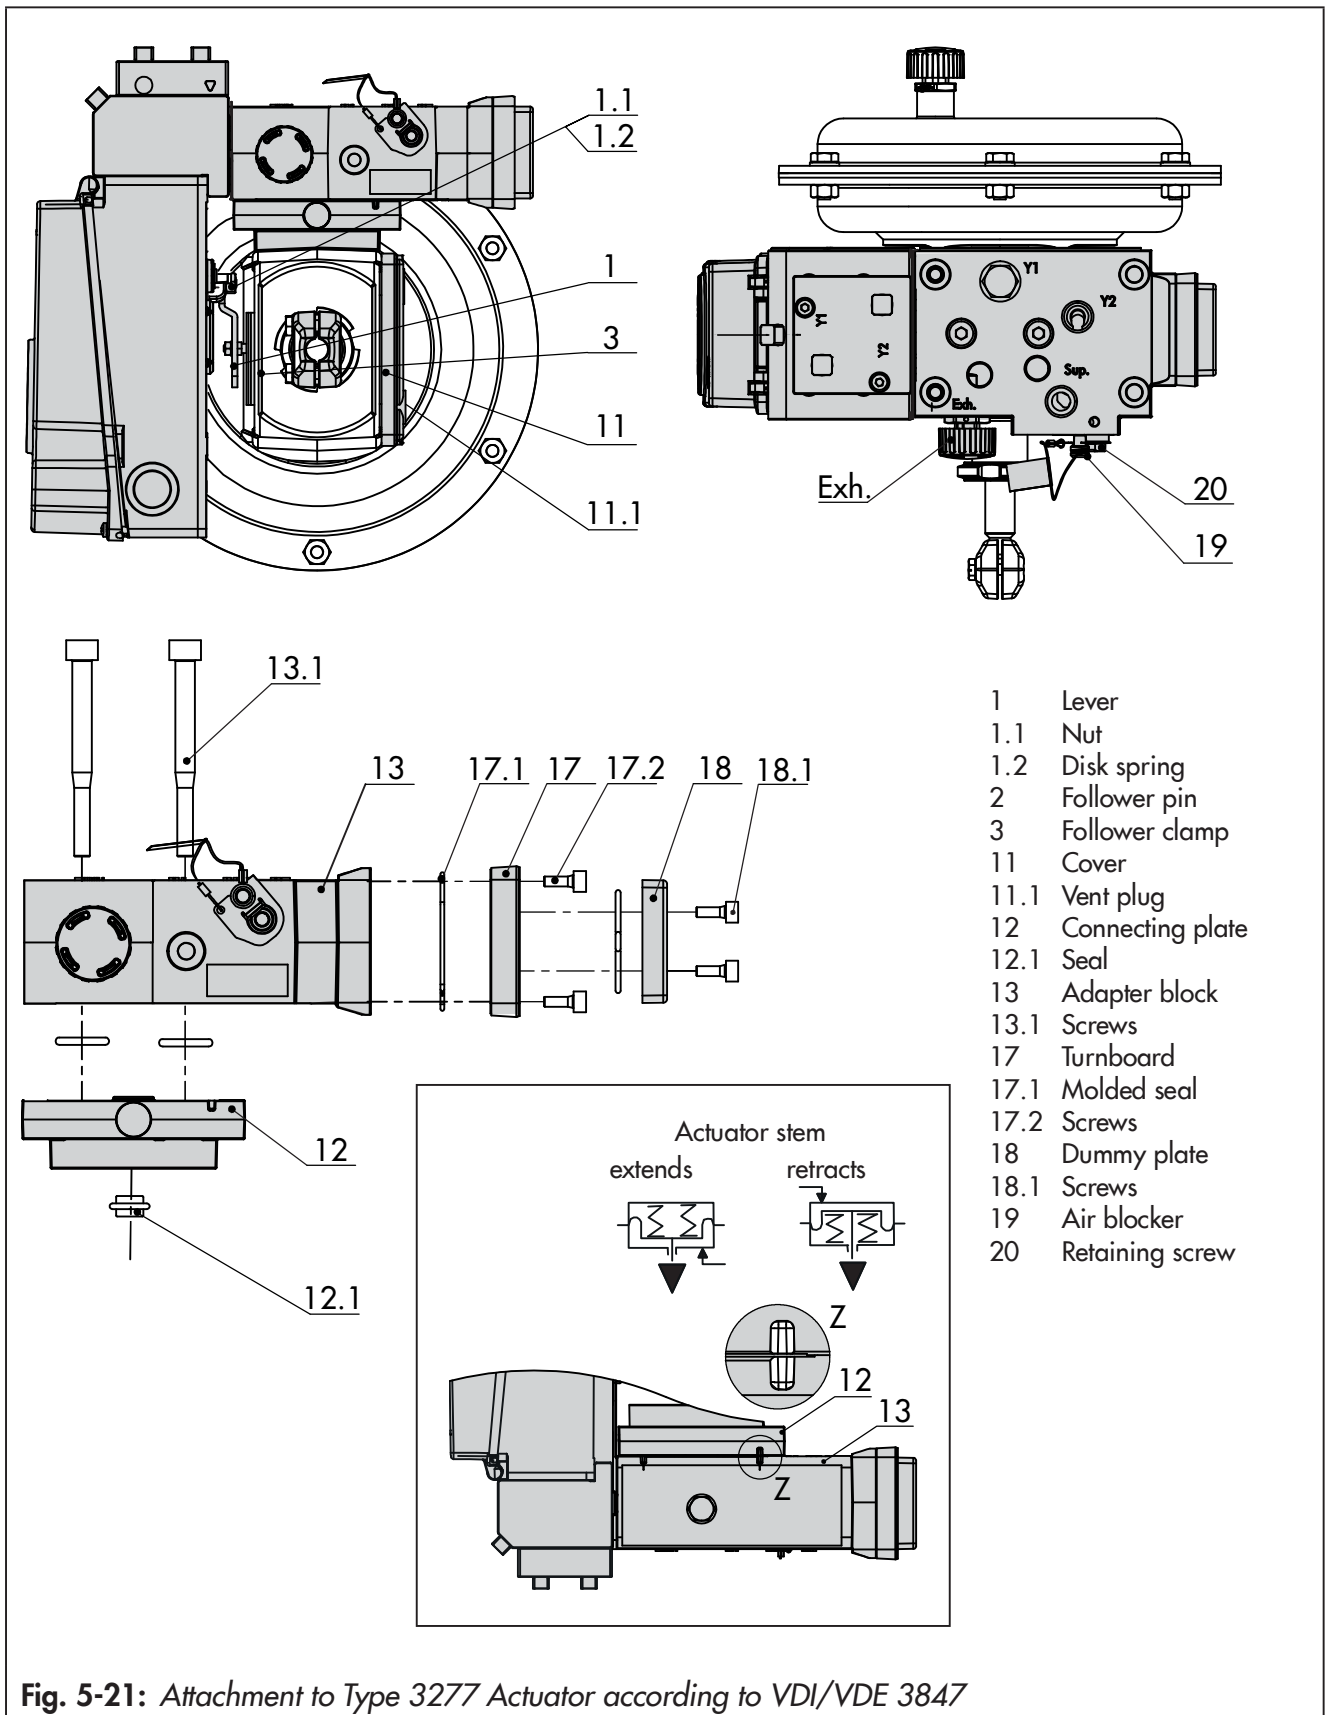

Fig. 5-21: Attachment to Type 3277 Actuator according to VDI/VDE 3847
➔ See Fig. 5-21
11. Fasten the positioner to the adapter block (13) using the two fastening screws (6.3). Make sure the molded seal (6.2) is properly seated (see Fig. 5-21).
12. Mount cover (11) on the other side. Make sure that the vent plug is located at the bottom when the control valve is installed to allow any condensed water that collects to drain off.